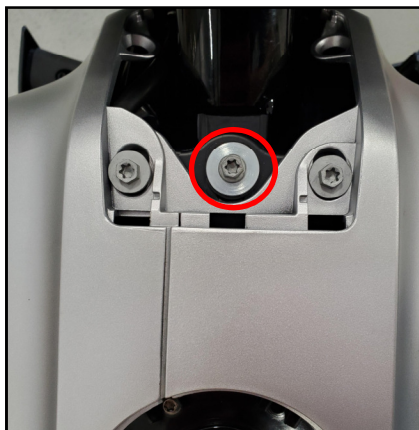

Fig. 14
17. Mount the new fuel tank on the motorcycle and connect the fuel line, fuel pump, and fuel level sensor. Torque the fuel tank mounting bolts to 10 Nm (Figure 14).